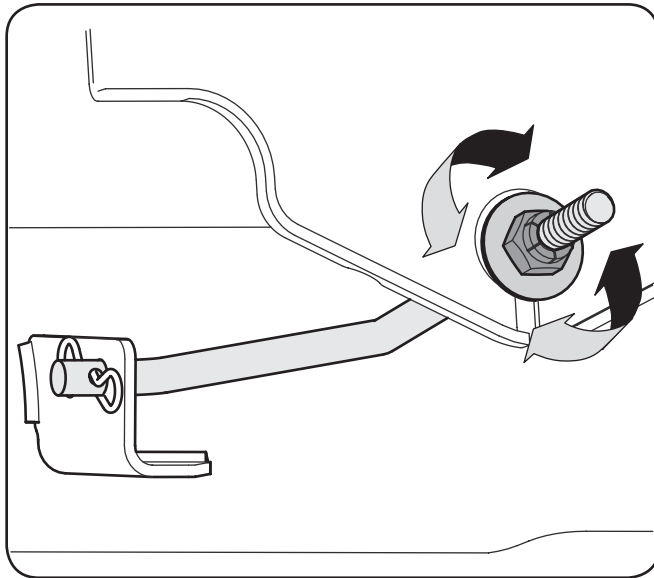

Figure 6-3
3. Locate the flange lock nut on the front side of the stabilizer bracket. See Fig. 6-3.